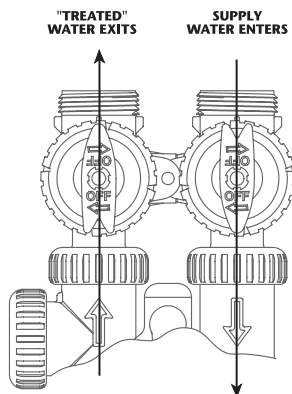

FIGURE 1
1. **NORMAL OPERATION POSITION:** The inlet and outlet handles point in the direction of flow indicated by the engraved arrows on the control valve. Water flows through the control valve for normal operation of a water softener or filter. During the regeneration cycle this position provides regeneration water to the unit, while also providing untreated water to the distribution system (**Fig. 1**).
After servicing, replace part, secure the check valve assembly with the red clip. Open by-pass to the normal service position (Fig. 1 Page 4).